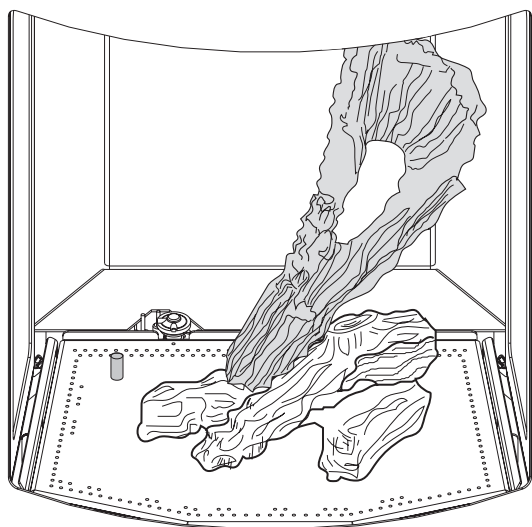

Figure 29. Lean the Right Log up against the upper right corner of the firebox and engage its toe with the indentation in the Bottom Log.
2. Evenly disperse the Ember Stones supplied over the burner plate around the log parts. **DO NOT ALLOW EMBER STONES TO BLOCK THE PILOT ASSEMBLY AREA.** The carry-over ports directly in front of the pilot must remain clear for proper pilot ignition. See figs. 29 and 65 for examples.